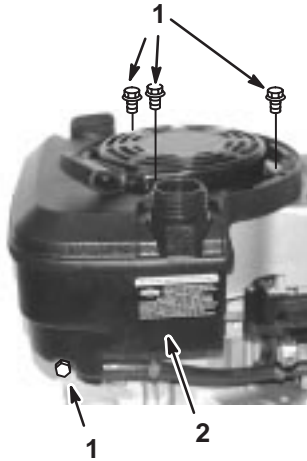

Fig 69 – Removing Fuel Tank
3. Disconnect fuel line at carburetor and clamp fuel line. Remove three (3) screws holding fuel tank to blower housing and screw and spacer holding tank to cylinder, Fig. 69.